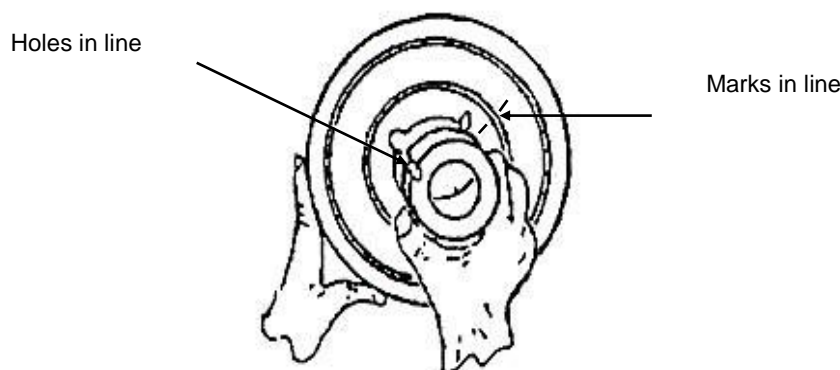

FIG 19.
- C. Ensure that the matching tapered surfaces are completely free from oil and insert the bush in the hub so that the holes and the marks line up. (Fig 19)